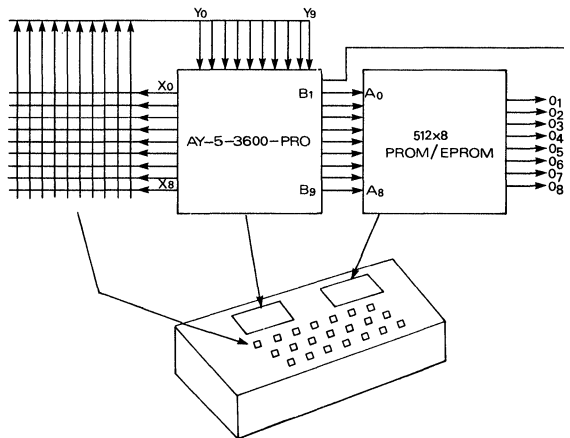

Fig.9 90 KEY 4 MODE KEYBOARD APPLICATION
Expansion to a 90 key 4 mode operation (see Fig. 9) is identical to the 64 key 4 mode except: the 90 key 4 mode version utilizes the full complement of addresses X0 Y0 thru X8 Y9 (90 keys). The 8-bit binary code (B2-B9) previously produced to address the 256 \times 8 PROM/EPROM is now expanded to a 9-bit binary code (B1-B9) for addressing to a 512 \times 8 PROM/EPROM. With expansion to a 90 key 4 mode application outputs B1-B3 now serve as the variable mode identification.